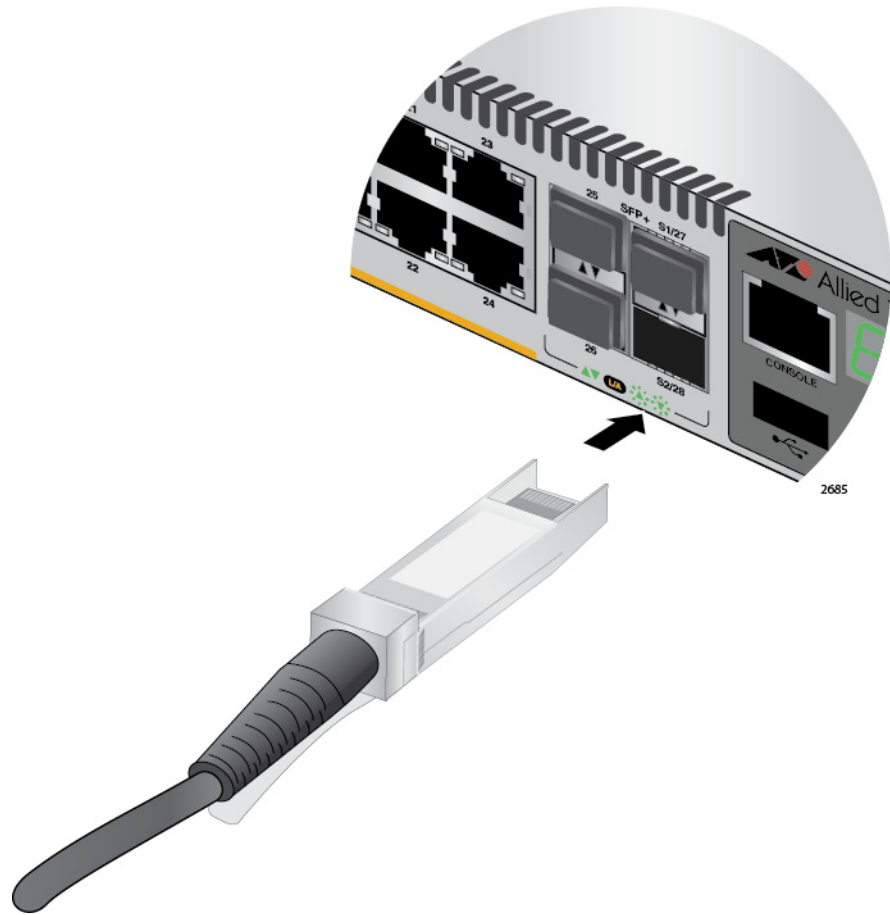

Figure 53. Installing the AT-StackXS/1.0 Transceiver in Slot S2
7. Position the transceiver with the release tab on the bottom and slide it into the slot until it clicks into place, as shown in Figure 53 on page 98.